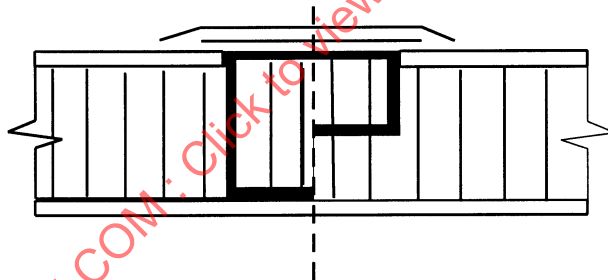

FIGURE 5A - Honeycomb Flush With Skin Upper Surface
3. The side of the skin that the honeycomb plug shall be level with. For example, for a non-flush patch the honeycomb will be level with the outer surface of the skin. Refer to Figure 5a. For a flush patch the honeycomb will be level with the existing honeycomb. Refer to Figure 5b.